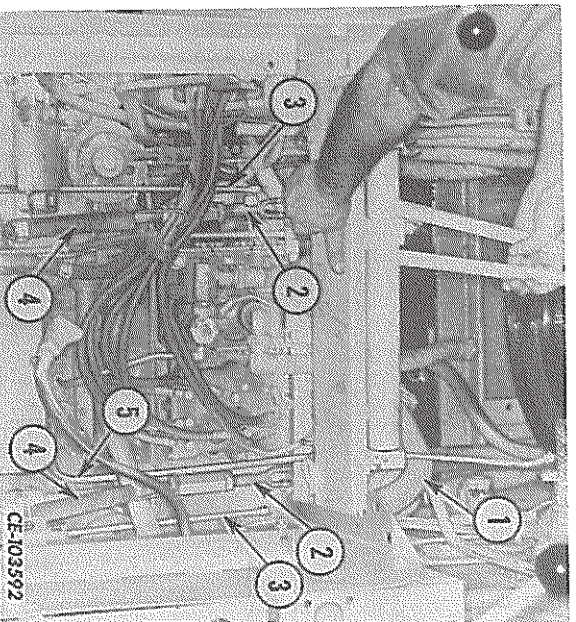

FIG. 6 — Removing the Platform Support Bar With Steering Levers
5. Remove the platform support bar with steering levers as an assembly (Fig. 6). Disconnect the lever rods (2) and steering booster rods (3) at the hand levers. Discon-
6. Disconnect the torque converter vent tube (5, Fig. 6) at the rear main frame cover and remove the tube. Remove the equipment pump suction tube (1) from the machine.